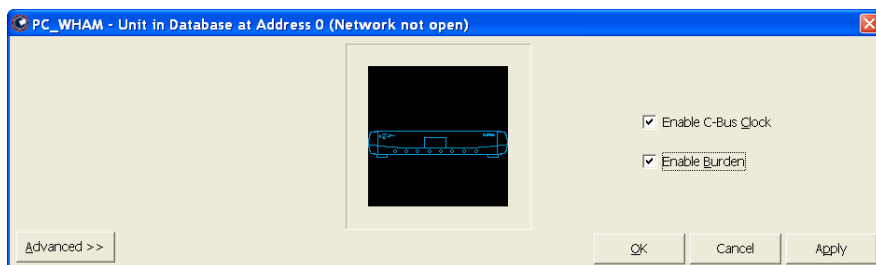

Figure 24 – Enable the Matrix Switcher's C-Bus clock and burden
- 7) Configure the Matrix Switcher unit (if necessary). The Matrix Switcher needs to be configured in Toolkit only to enable its C-Bus system clock or network burden. In a C-Bus network consisting entirely of MRA devices, or where the Matrix Switcher is the only unit with a C-Bus power supply, it is recommended that you enable the Matrix Switcher's C-Bus system clock and burden. This is shown in Figure 24.